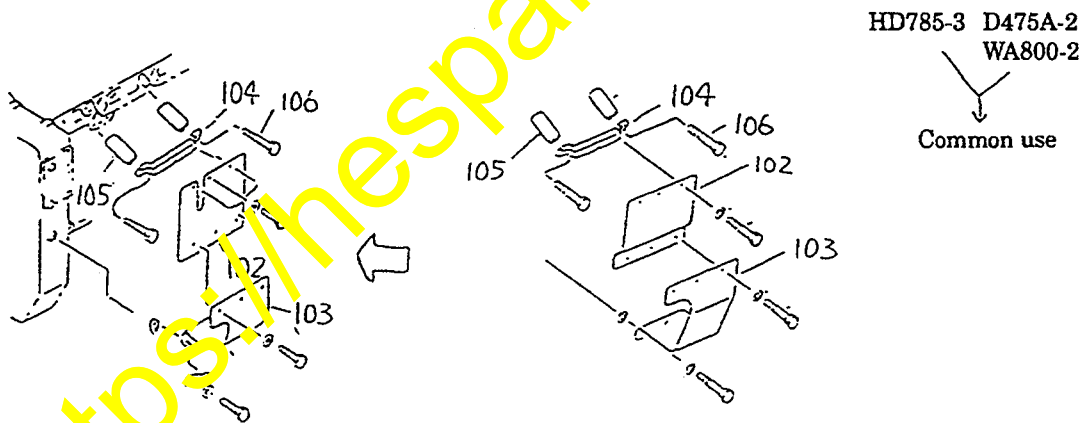

Fig. 55
② Common injection pump coupling cover on HD 85 (Fig. 55)